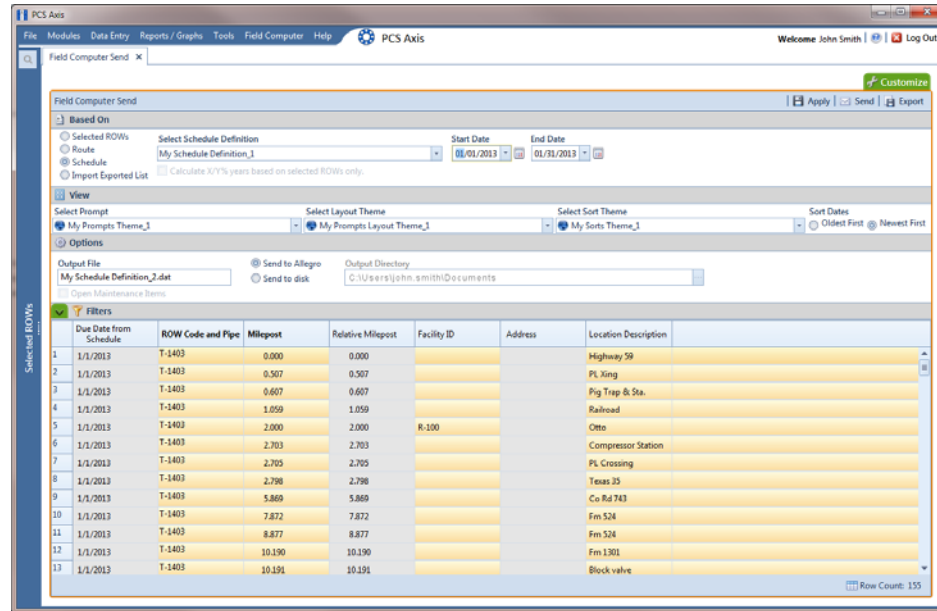

Figure 13-10. Field Computer Send Schedule
- 3 Click **Field Computer** > **Send** to open the *Field Computer Send* window (Figure 13-10, page 563).
- 9 Select a prompt, layout, and sorting theme in the following manner (Figure 13-10, page 563):